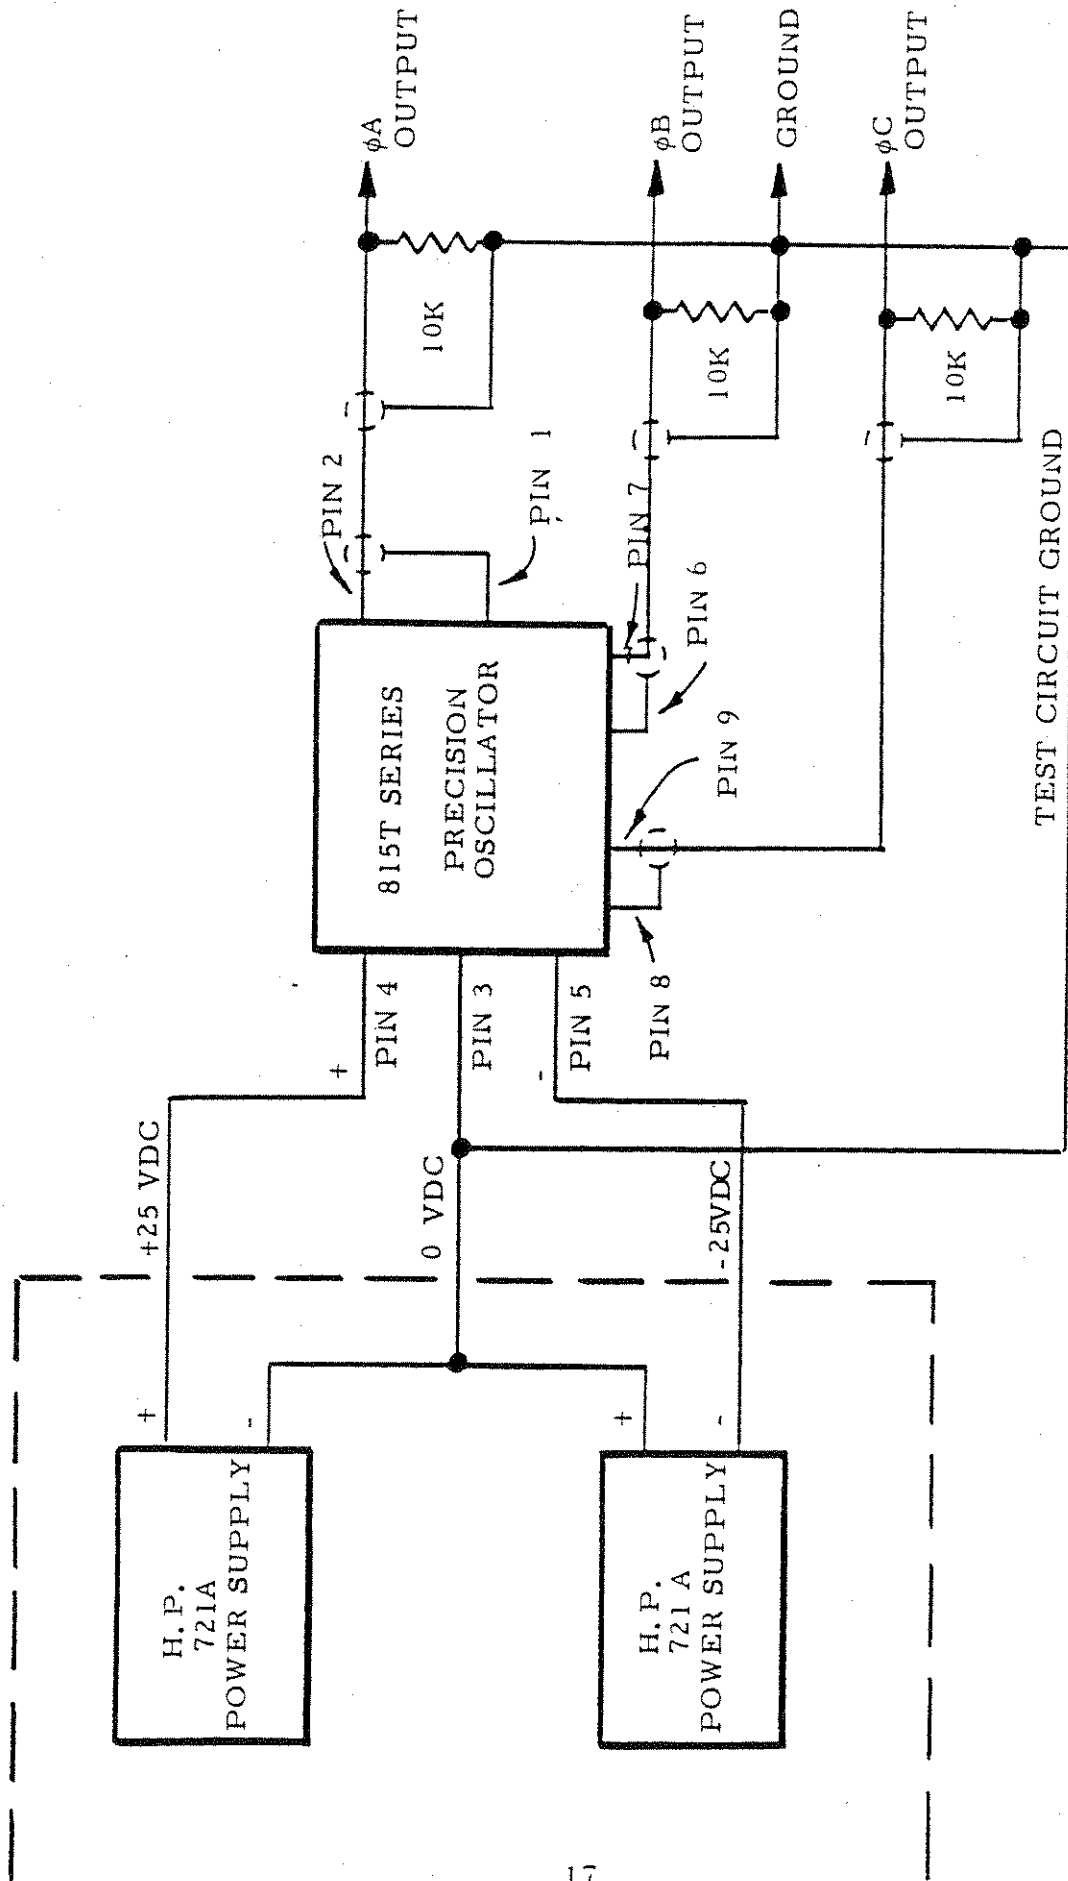

FIGURE 5-1. Test Circuit for 815T Series Oscillators
Connect the precision oscillator as shown in Figure 5-1 using either the ± 25 volt power supply in the California Instruments Solid State Invertron[®] or a pair of external +25 volt and -25 volt DC power supplies. Each power supply should draw from 18 to 55 milliamperes. Allow the unit to warm up for one half hour.
- 4.4.1 Connect the Model 815T-Freq-Tol-2 ϕ Oscillator as shown in Figure 5-1 using either the ± 25 volt DC supplies in the California Instruments Invertron[®] or a pair of external ± 25 volt DC power supplies. Check that the procedure given in Section 4.3.1 through 4.3.4 of this instruction manual has been performed before proceeding further.
- 4.5.1 Connect the 815T-Freq-Tol-3 ϕ D oscillator as shown in Figure 5-1 and repeat step 4.4.1 through 4.4.7, except check that the phase shift is 60 degrees ± 1 degree.
- 4.6.1 Connect the 815T-Freq-Tol-3 ϕ oscillator as shown in Figure 5-1 and repeat steps 4.4.1 through 4.4.7, except check that the phase shift is 120 degrees ± 1 degree.
5.3.1 Connect the variable frequency oscillator as shown in Figure 5-1 and allow the unit to warm up for one hour in a 25°C environment. In the case of a multiphase oscillator, rotate the AMPLITUDE control fully clockwise.
Connect the precision oscillator as shown in Figure 5-1 and allow the unit to warm up for a few minutes. In the case of the multiphase oscillators, turn the AMPLITUDE control so that the output from each phase is approximately 5.0 volts rms.
Connect the unit as shown in Figure 5-1 and allow the unit to warm-up for one hour in a 25°C environment. The output voltage should be approximately 5 volts rms. Adjust the AMPLITUDE control on the multi-phase oscillator, as required.
This section of the manual is only applicable to multiphase versions of the 815T Series Oscillator. Connect the oscillator as shown in Figure 5-1 and allow the unit to warm-up for one hour in a 25°C environment.